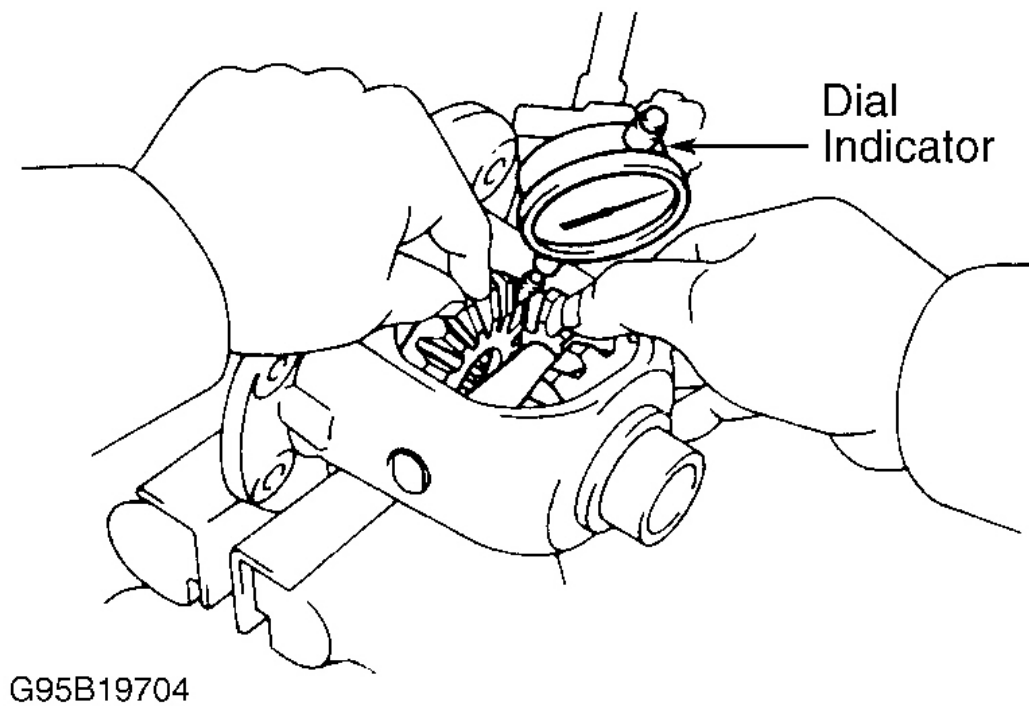

Fig. 48: Measuring Differential Pinion Gear Backlash
2. Use a dial indicator to check side gear backlash. Hold one pinion against differential case. Measure side gear backlash. See **Fig. 48** . Backlash should be .002-.008" (.05-.20 mm). If backlash is not within specification, side gear thrust washers must be replaced.